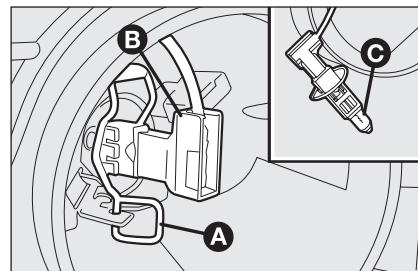

fig. 20
- release the bulb holder catch **A**-fig. 20;